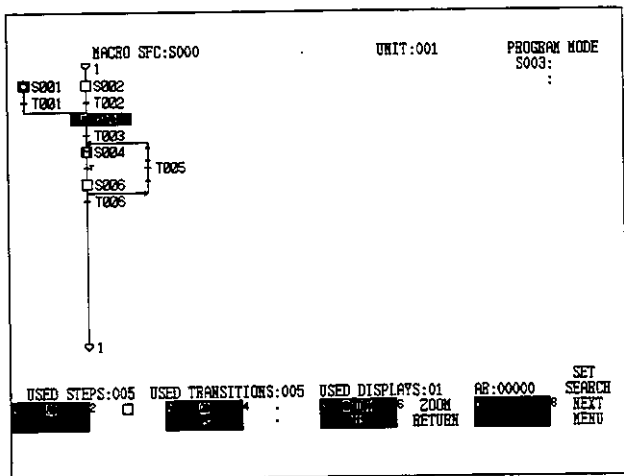

Figure 7.70
- 1) Display the SFC Screen shown in *Figure 7.70*.